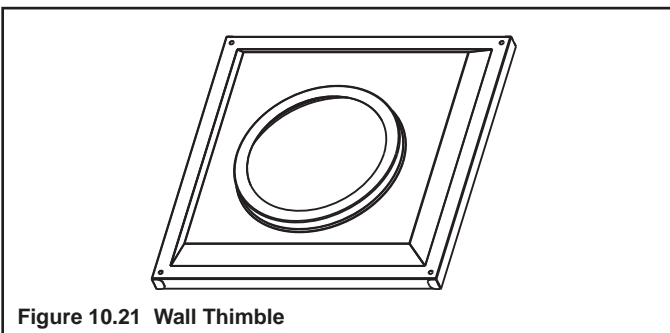

Figure 10.21 Wall Thimble
- Once the pipe section and the termination cap have been connected, slide the wall thimble up to the interior wall surface and attach with screws provided. See Figure 10.21.